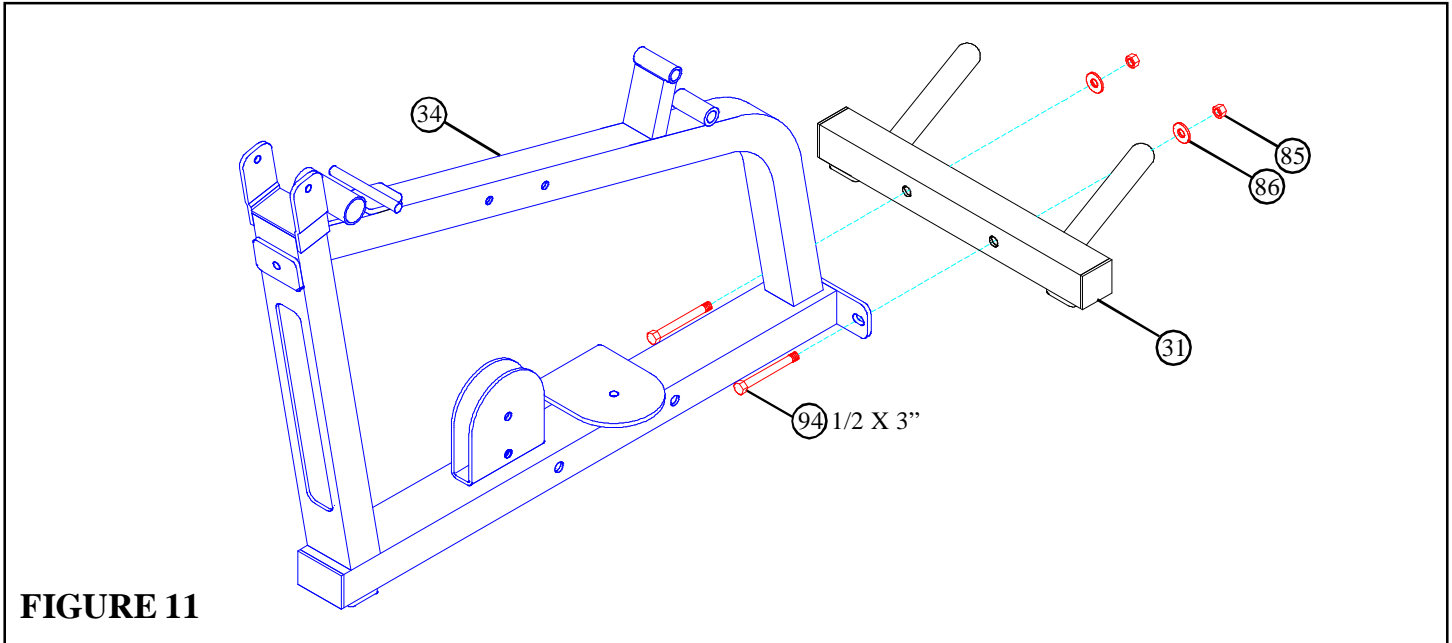

**FIGURE 10**
- **SECURELY** assemble one 1/2 X 3-1/2" SPRING PIN (63) to the PRESS ARM (8) as shown in FIGURE 10.
- **SECURELY** assemble the PRESS ARM (8) to the PRESS ARM ADJUST (36) using one 1/2 X 7-1/2" BOLT (98), two 1/2" WASHERS (84), two 1/2" FLANGE BEARINGS (70), and one 1/2" LOW HEIGHT LOCK NUT (86). (**NOTE: SECURELY tighten, then back nut off 1/4 to allow the PRESS ARM to rotate freely.**)
- **SECURELY** assemble four 3/8 X 2-3/4" BOLTS (90) and four 3/8" LOCK NUTS (82) to the PRESS ARM ADJUST (36) as shown in FIGURE 10.